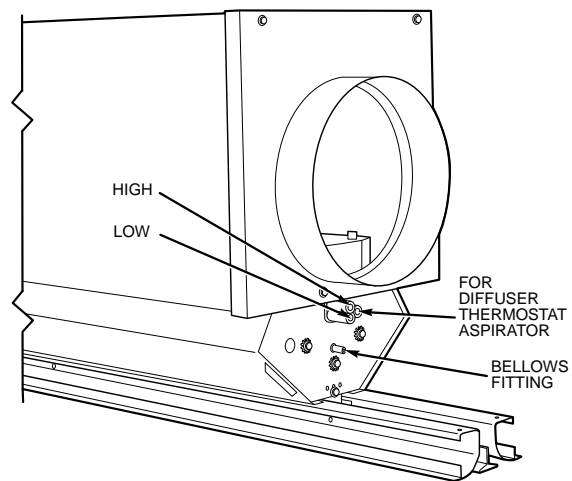

Fig. 3 — Typical 37HS Air Terminal Before Installation of Controls
2. Remove cap from bellows fitting and install $1\frac{1}{16}$ -in. long piece of $\frac{1}{4}$ -in. OD pneumatic adapter tubing onto the bellows fitting (push on full length of fitting). See Fig. 3.